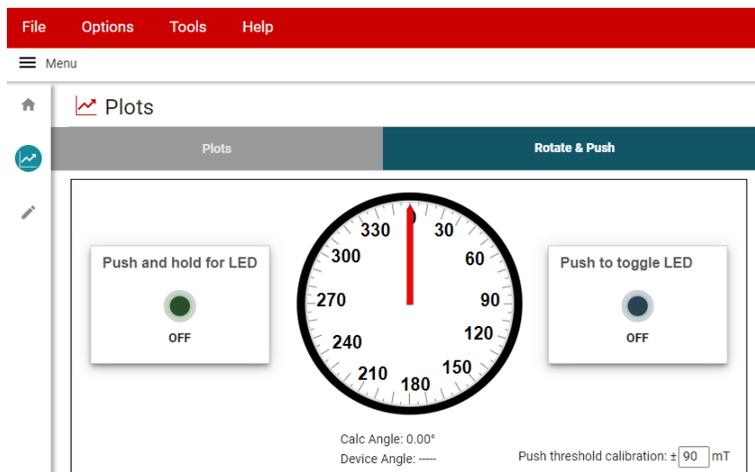

Figure 10. Rotate & Push GUI Page
3. Go to the *Rotate & Push* tab inside the plots page, as shown in Figure 10.